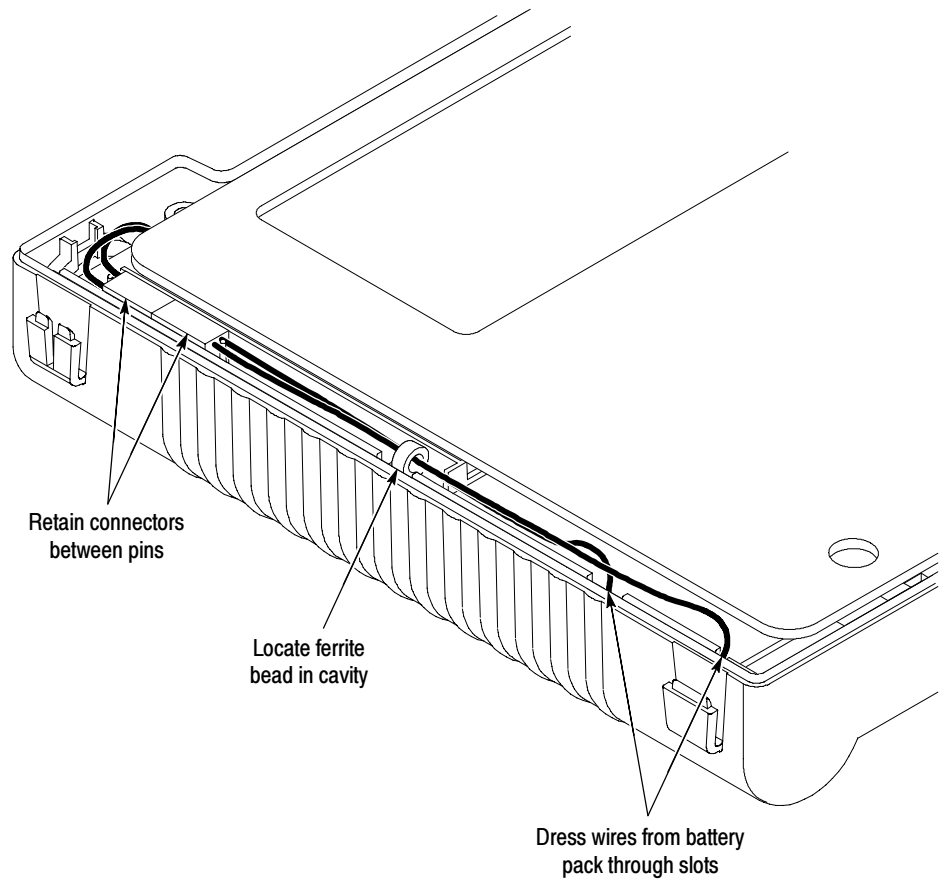

Figure 23: Routing the battery wires
- f. Reconnect the battery wire connector and press it onto its retaining pins. Check that the polarity of the connector is correct. Dress the wires into the channel on the chassis as shown in Figure 23.